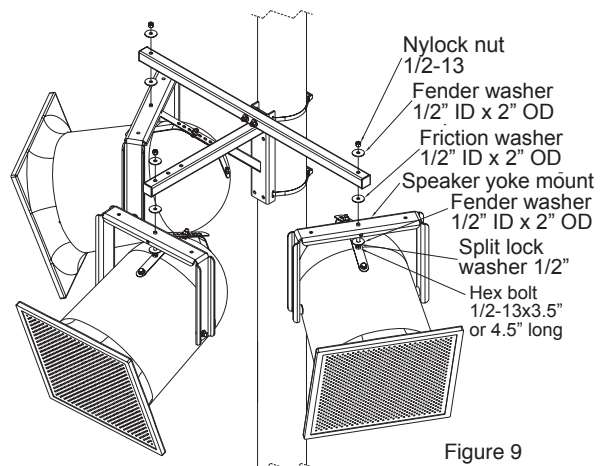

Figure 9
Step 14: Install the selected speaker mounts on the pole mount's extension arm and at the ends of the dual adapter using the hex bolts, flat washer, friction washer, split washer and nyloc nut provided with the pole mount and the dual adapter (Figure 9).